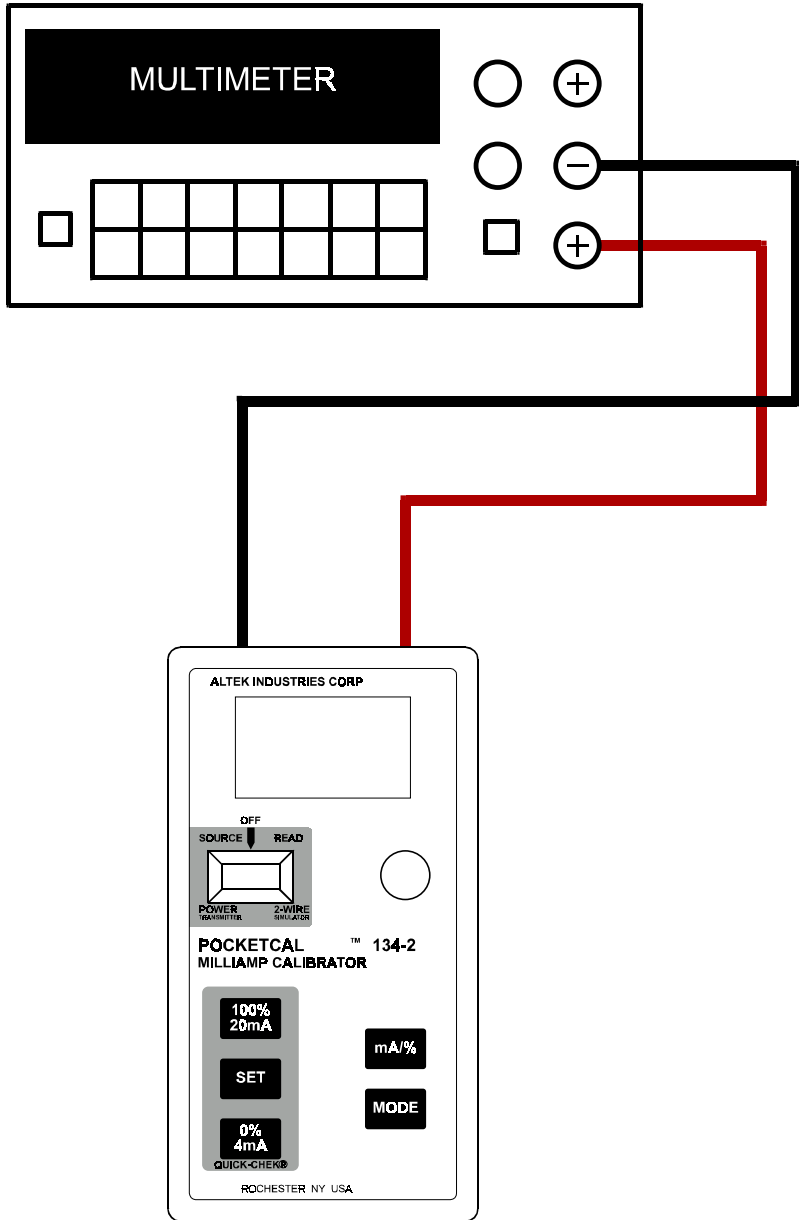

Figure 3
1. Connect the UUT to the DMM as shown in Figure 3.